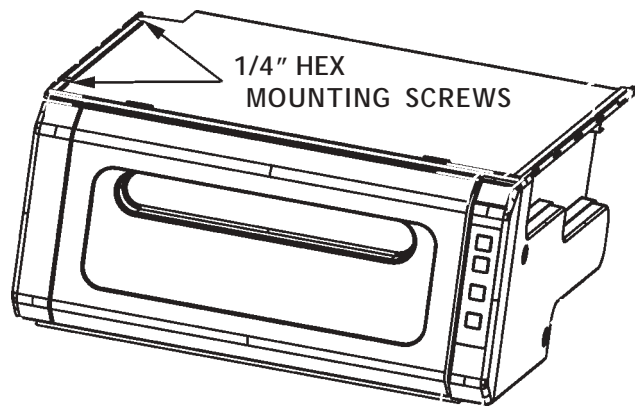

Figure 2-4
- Remove two combination phillips, 1/4" hex head screws located on the left side. (See Figure 2-4)